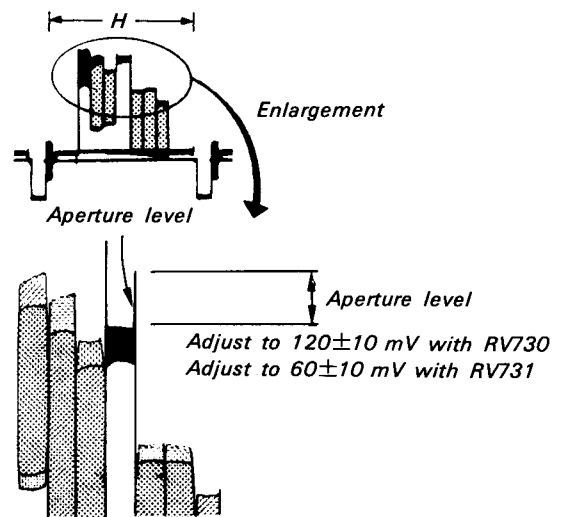

Fig. 7-33.
- 1) After focusing is completed, slightly swing camera block to the right and left, and fix it where the aperture level in between white and magenta (See Fig. 7-33) is maximized.